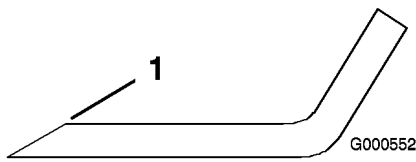
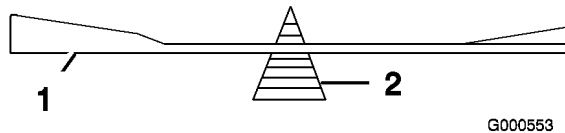

Figure 39
Figure 40
- Use a file to sharpen the cutting edge at both ends of the blade (Figure 39). Maintain the original angle. The blade retains its balance if the same amount of material is removed from both cutting edges.
- Check the balance of the blade by putting it on a blade balancer (Figure 40). If the blade stays in a horizontal position, the blade is balanced and can be used. If the blade is not balanced, file some metal off the end of the sail area only (Figure 39). Repeat this procedure until the blade is balanced.